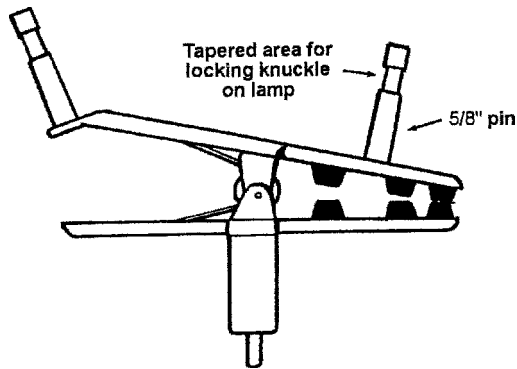

Figure 2.30 Gaffer grip.
1. The gaffer grip (Figure 2.30) is a multiuse device that is unique in that it comes with two 5/8-in. pins. One pin is on the handle and one is on the jaws.